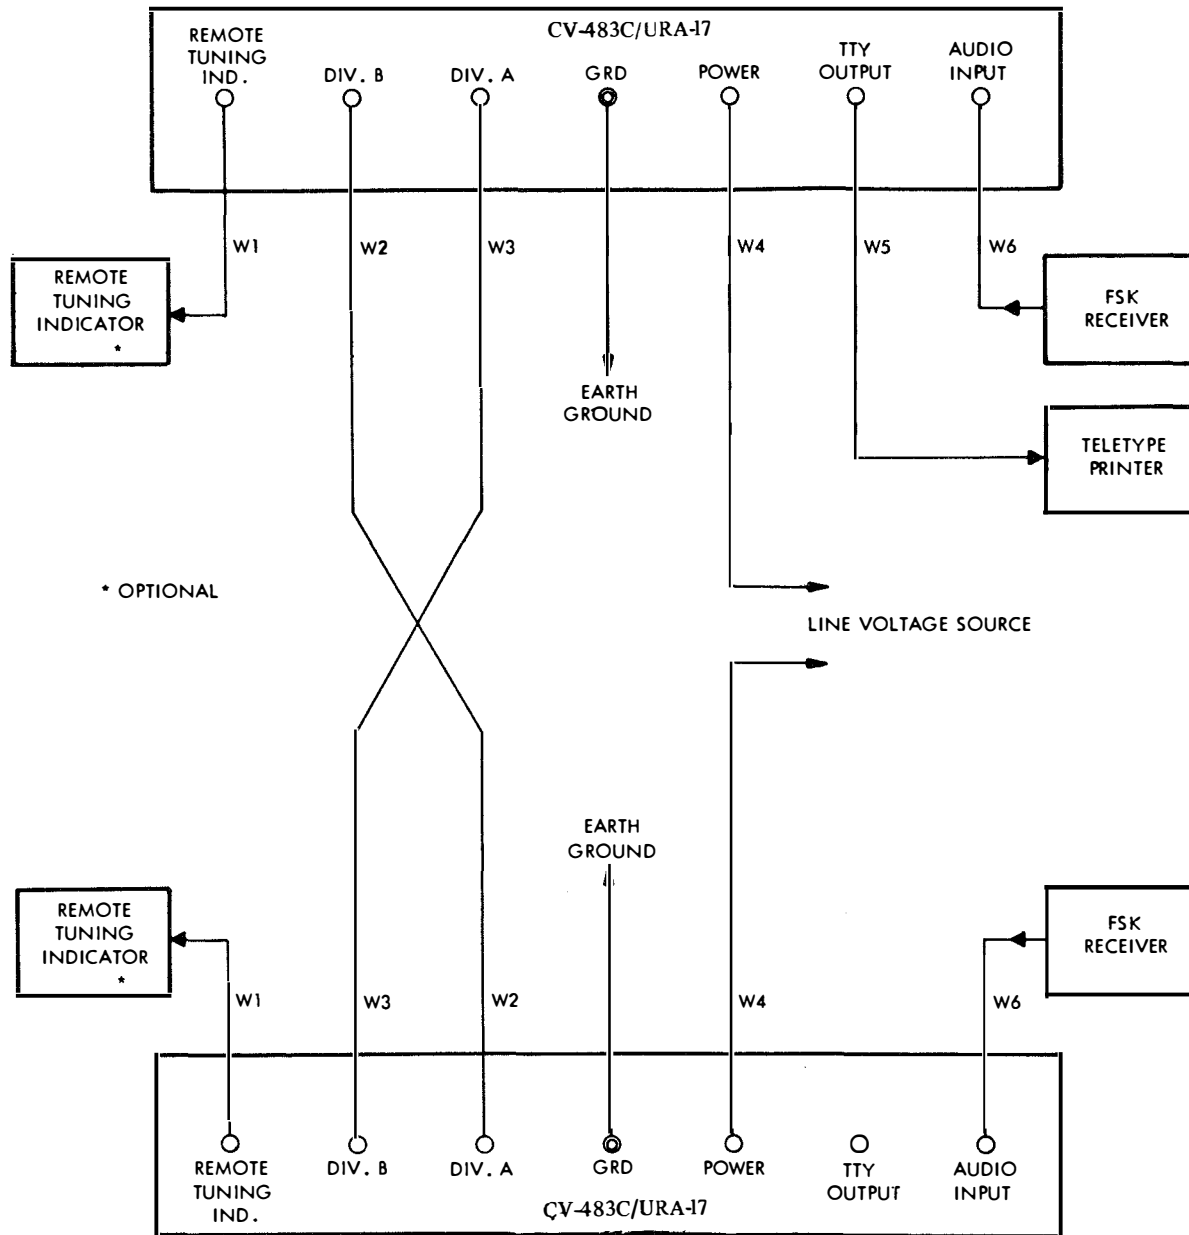

Figure 2-5. Comparator-Converter Group AN/URA-17C,
(2) **INTERCONNECTING CABLES FOR DIVERSITY OPERATION.** - Table 2-2 lists the required cable and connector information for diversity operation of the AN/URA-17C. Figure 2-5 illustrates the interconnection to associated equipment.
\* Use in conjunction with figure 2-5.